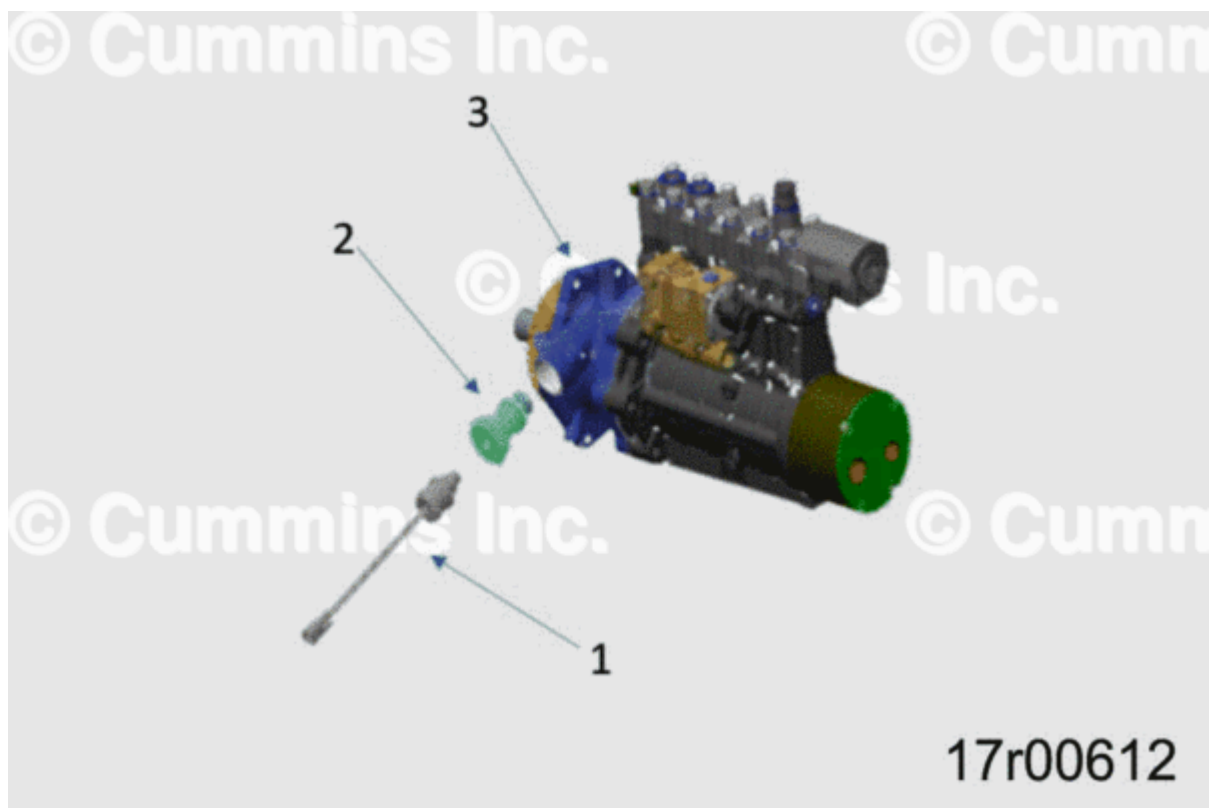

Figure 1, Fuel Pump Drive
1. Refer to Procedure 009-011 in Section 9 (</qs3/pubsys2/xml/en/procedures/28/28-009-011.html>) to install the new fuel pump accessory drive support, Part Number 5376094. See Figure 1.